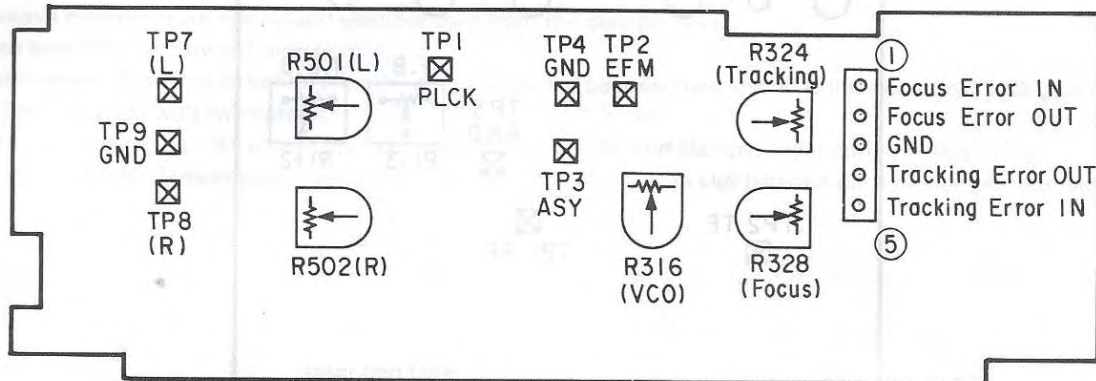

Figure 22 Test Points on Main P.C. Board
2. Adjustment Procedures [Main P.C. Board] (For test points, refer to Figure 22.)
- ① VCO adjustment